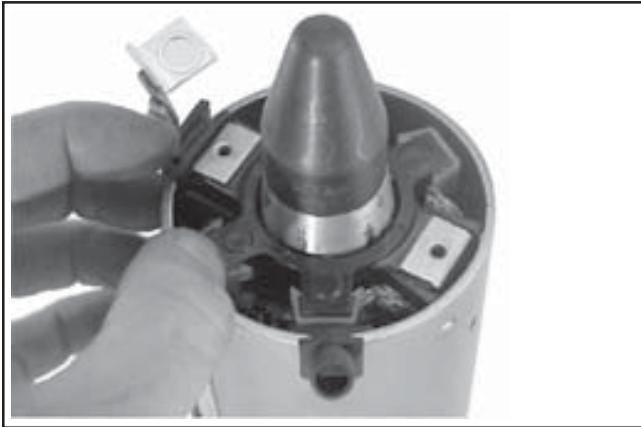

**Figure 8-69. Brush Installation Tool with Extension.**
- c. Install the brush springs and snap on the four retainer caps. See Figure 8-69.